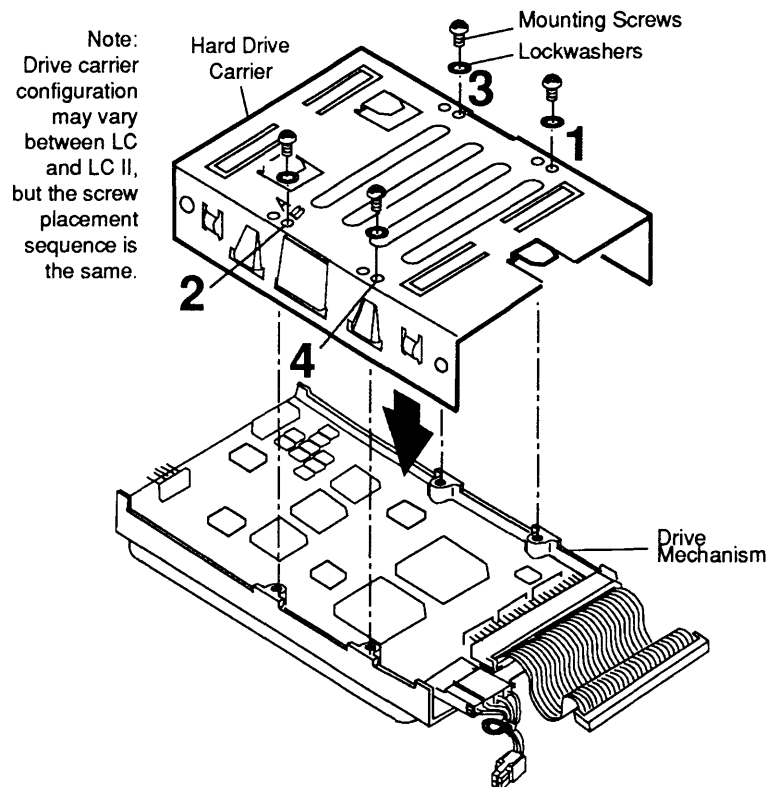

Figure 2-3 Installing the Drive Carrier
5. **Figure 2-3.** If you are replacing the hard drive, turn the drive over and remove the four Phillips screws and lockwashers that secure the defective drive mechanism to its carrier. You will need to use this carrier when installing a new hard drive.
1. **Figure 2-3.** Using the screw hole marked **B**, align the carrier on the bottom of the new drive mechanism. **Loosely** fasten the carrier to the drive with the four lockwashers and Phillips screws.
2. **Figure 2-3.** Using the torque driver and following the sequence in **Figure 2-3**, torque the four Phillips screws to 8.0 in-lbs.
CAUTION: *Be sure to use the Phillips screws that you removed in step 5 above and follow the installation sequence in Figure 2-3. Failure to do so can damage the drive.*